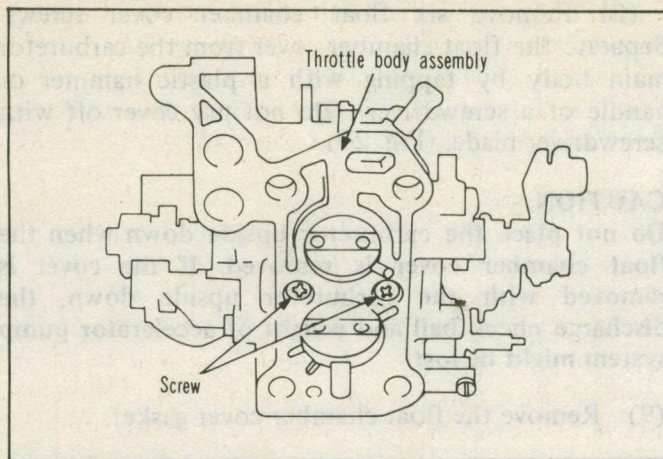

Fig. 29 Separation of Throttle Body from Main Body
(19) Remove the two main body-to-throttle body screws. Separate the throttle body from the main body and remove the gasket. (Fig. 29)
(1) Install the idle mixture adjusting screw, spring, washer and packing in throttle body. Turn screw lightly against its seat with fingers. **DO NOT USE A SCREWDRIVER.** Turn the idle mixture adjusting screw 3/4 turn counterclockwise as a starting point.
(2) Using a new gasket, install throttle body to main body and tighten screws. (Fig. 29)